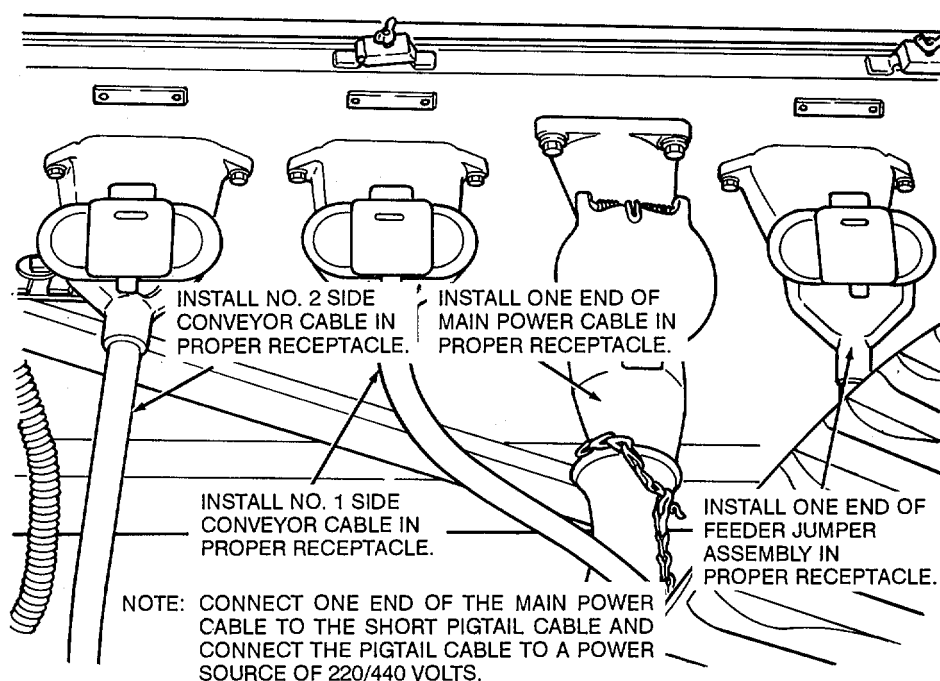

Figure 11. Cables installed on main control panel
- j. Connect the side conveyor cable and feeder jumper cable to the control panel, and connect the main power cable to the control panel and main power source (figs. 11 and 12).
- b.* Disconnect the main power cable and the short main power cable from the power source, and disconnect all cables from the control panel in reverse of the instructions on figures 11 and 12.